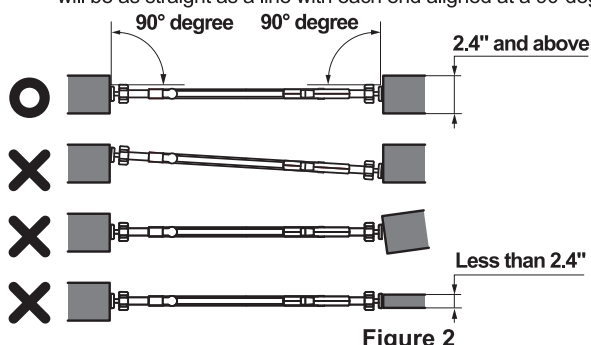
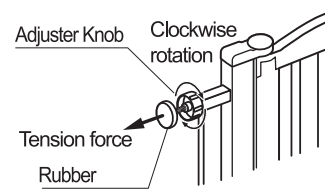

Figure 2
Figure 3
- If the product has been installed correctly, the top of the gate (while looking down from above the top) will be as straight as a line with each end aligned at a 90-degree right angle as shown in Figure 2.
1. Determine the desired direction for the door opening. Set the product against the wall at a perpendicular right angle as shown in Figure 2. Tighten the upper Adjuster Knob until the rubber of the Adjuster Knob touches the wall surface as shown in Figure 3.